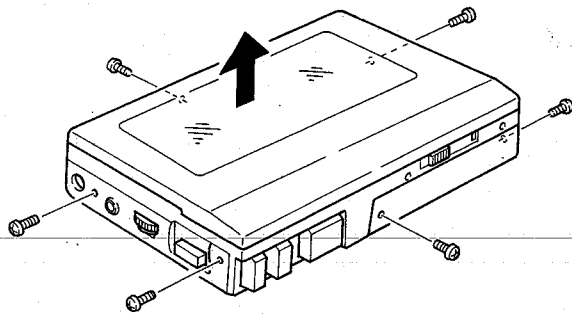

Fig. 1
- 1) Remove the 6 screws. (See Figure 1)